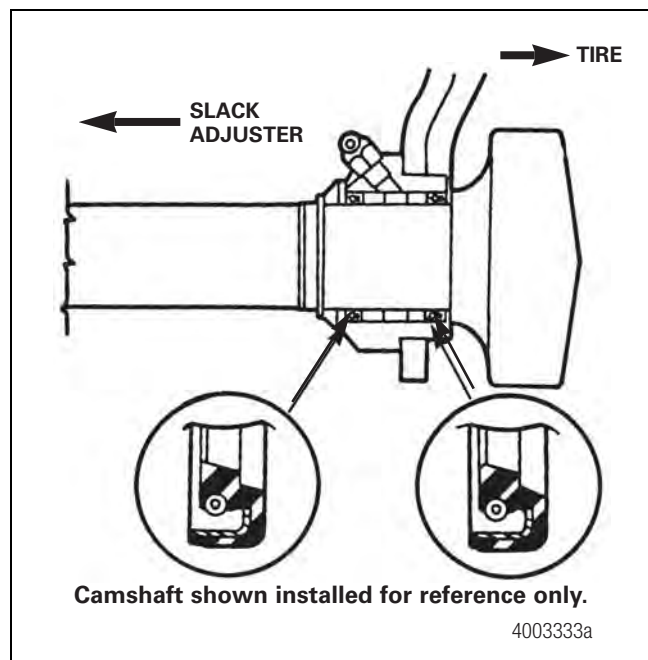

Figure 11.33
- A. For plastic bushings, drive a steel sleeve into the retainer bore until it is flush with the outboard edge, tire side, of the retainer. Verify that the slot in the steel sleeve lines up with the grease fitting delivery hole. Then install the plastic bushing. Figure 11.33.